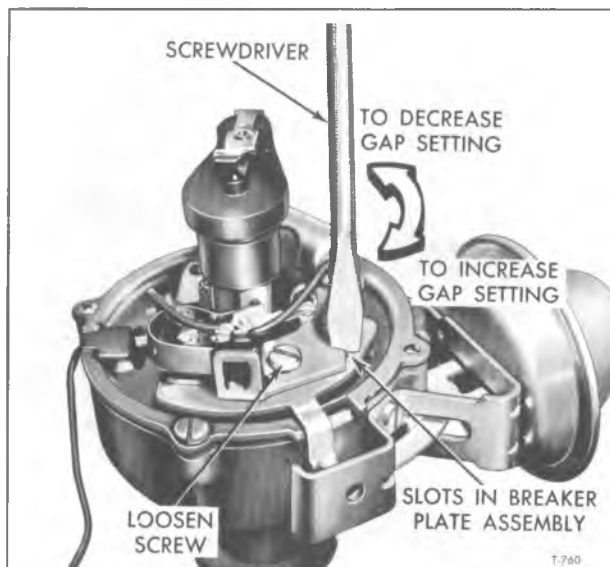

Figure 10—Setting Point Opening
5. Use a screwdriver to move point support to obtain a 0.019" opening for new points (or 0.016" opening for used points) (fig. 10).